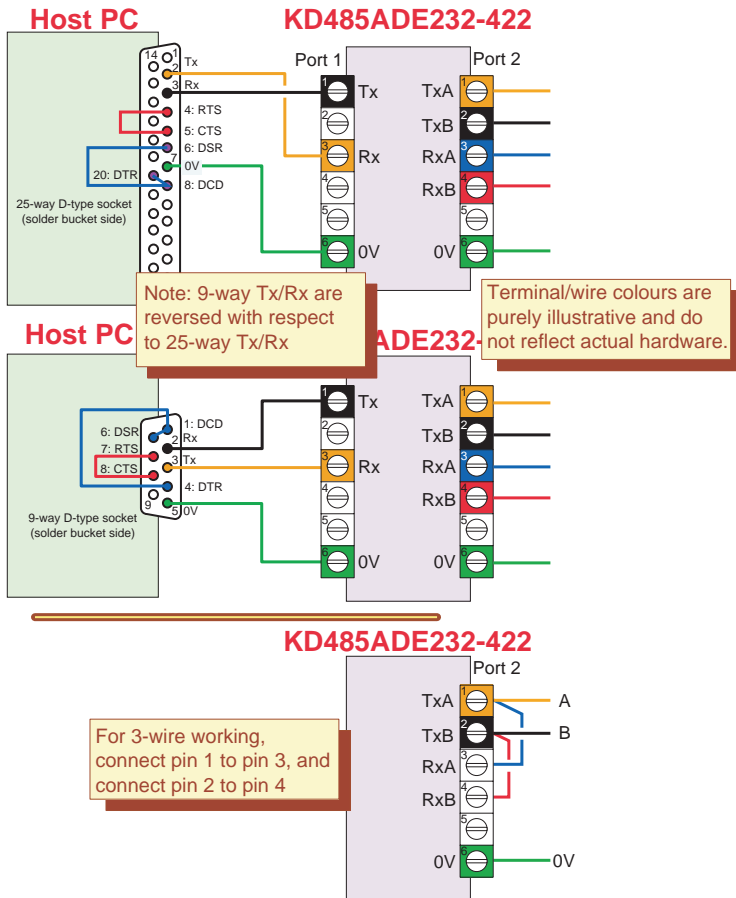

Figure 5 KD485ADE-232-422 connections
1. The master shown in figures 5 and 6 is a PC, but the input/output connections hold true for any EIA232 master